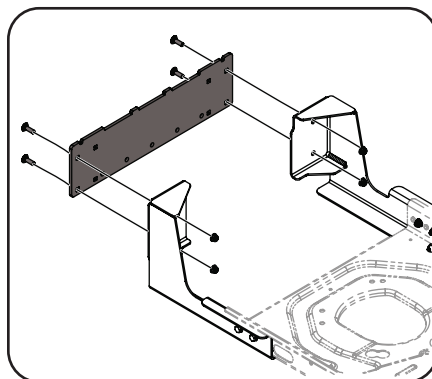

Figure 4-3
2. Install bracket mounting plate (783-06168) with four bolts (710-0276) and four nuts (712-04063) from hardware pack 689-00567 as shown in Figure 4-3.